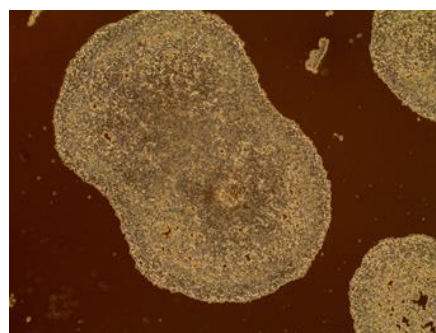

Figure 1 – EDTA effects on iPS colonies after 4 minutes
5. Incubate at room temperature for 4-8 minutes, observing under phase contrast microscopy until colonies display bright 'halos' around the edges and small holes start to appear throughout the colonies (see figure 1).